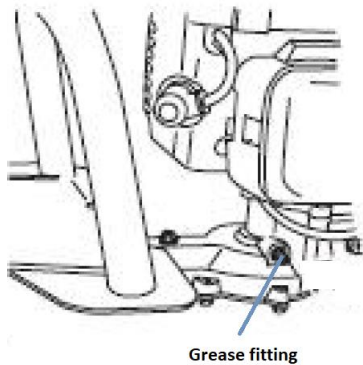

Fig. 11
- With using a grease pump, feed lubricating grease into the gearbox until grease come out of the base of blade. (Fig. 11)